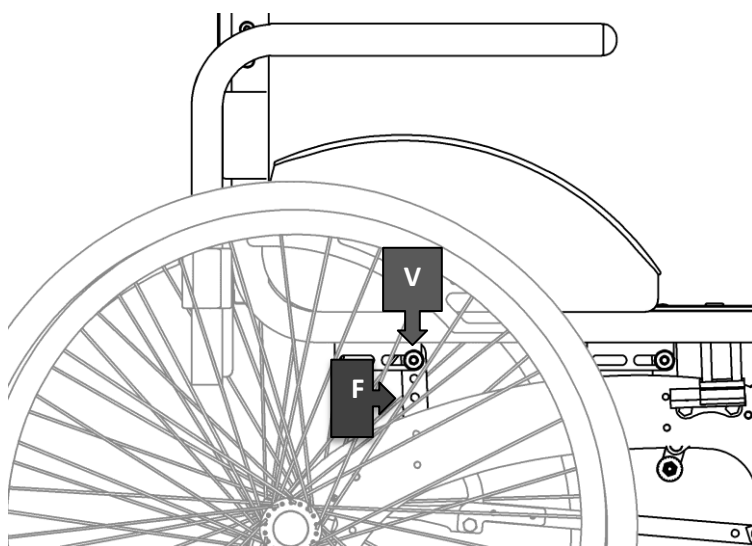

Figure 5
To adjust the inclination of the seat completely unscrew the screws (V) shown in Figure 5 and re-insert them in one of the holes (F) in order to obtain the desired angle.